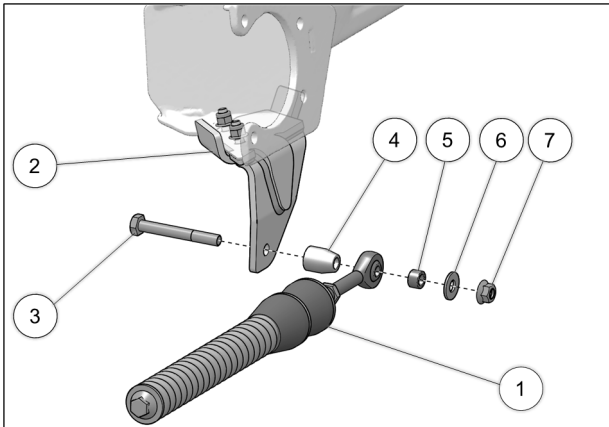

Fig. 9
9. Attach stabilizing rod (1) to anchor bracket (2), using 80mm-long M10 bolt (3), long spacer bushing (4), short spacer bushing (5), flat washer (6) and nut (7). Torque to 70 N•m [52 lb•ft]. See Fig. 9